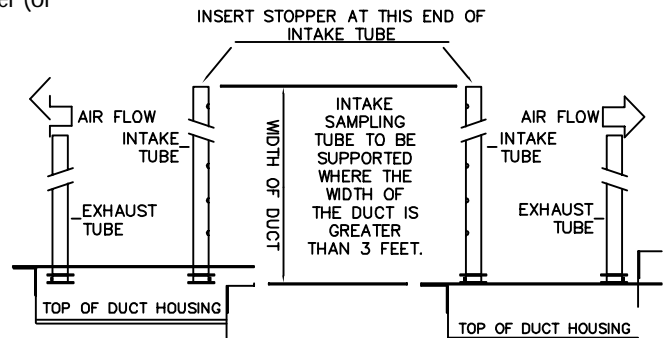

FIGURE 2 SAMPLING TUBE ORIENTATION
The Duct Detectors are designed for use in ducts where the air velocities are from 300 to 4000 feet per minute. Verify this by checking specifications of installation and if necessary, use an Anlor Model 6000P velocity meter (or equivalent) to check the air velocity. See Figure 2 for sampling tube orientation to air flow direction.
C. SAMPLING TUBE ASSEMBLY (See Figure 2)
The sampling tubes may be ordered to a desired length or ordered in one of 3 standard lengths and cut per requirements. The intake sampling tube consists of a piece of steel piping with a series of holes drilled the entire length of the tube and should extend the entire width of the duct. The holes must be facing into the air flow (see Figure 2). The exhaust tube consists of a piece of steel piping approximately 7-1/2" long.
D. MOUNT SAMPLING TUBES (See Figure 2)
1. Sampling tube connectors are equipped with set screws, which allow the tubes to be mounted only in directions shown in Figure 2. Establish proper orientation considering airflow direction.